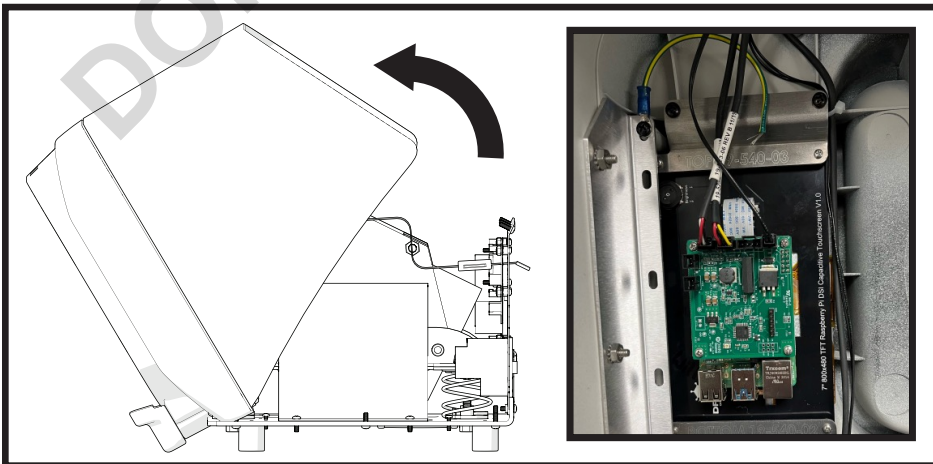

Figure 9
4. Tip housing forward to access cables, being careful that carousel clears housing opening (Figure 9).